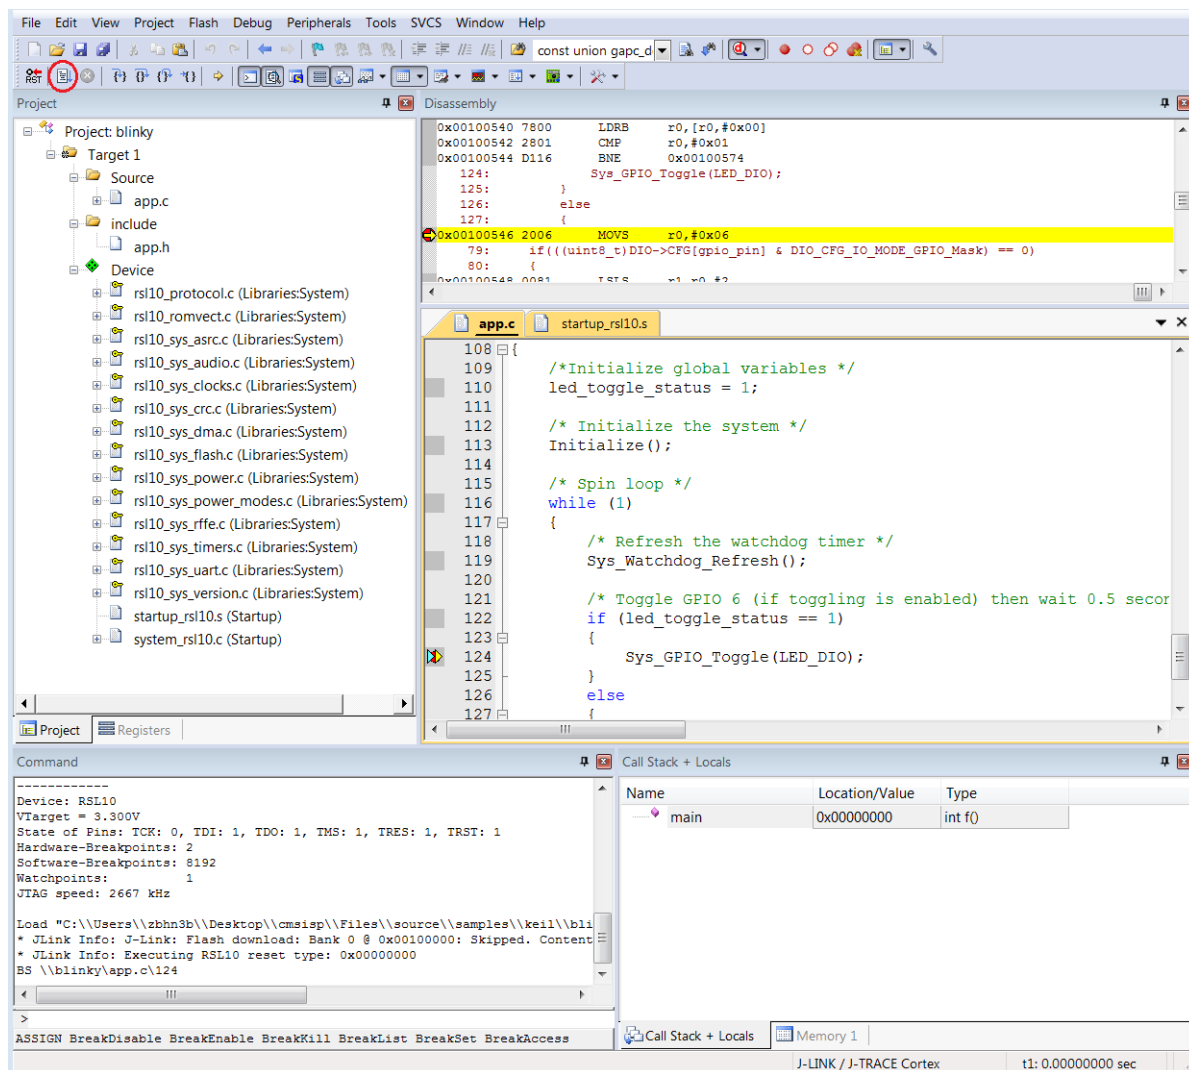

Figure 25. Debug Session in the Keil µVision IDE
3. The application runs up to the first breakpoint in *main*, as shown in Figure 25. You can press F11 multiple times to step through the code and observe that the LED changes its state when the application executes the function *Sys_GPIO_Toggle (LED_DIO)*.